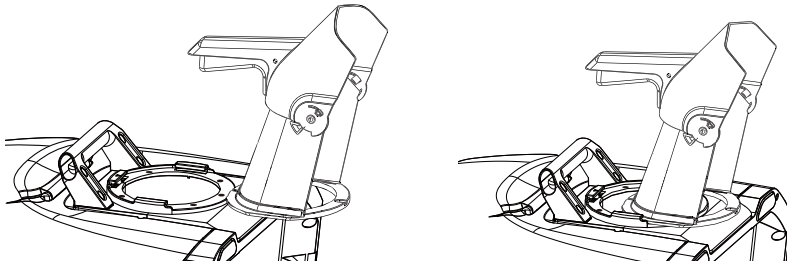

Fig. 10
1. Align the bottom edge of the discharge chute with the 3 tabs (d) on the upper side of the machine body. Slide the discharge chute into the tabs. (See Fig. 10)